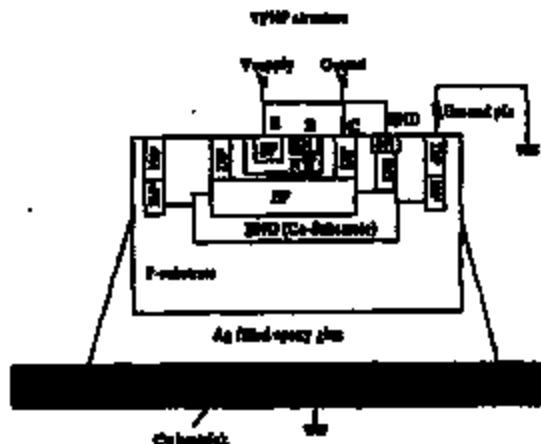

Fig. 3: Schematic view of a cross section of the complementary bipolar IC showing the V-PNP transistor as well as the Cu-bestalik and Ag-filled epoxy glue.
In this paper we will show that this packaging method gives rise to a new latching failure mechanism where latchup is not induced by triggering one of the known thyristors at the top side of the die but by triggering of an unexpectedly present parasitic thyristor located between the frontside and the (n-type) Ag-filled glue contacting the backside of the die, see fig. 3. The phenomena will be described in more detail in the paper and options for its elimination will be presented. Consequences for qualification testing will be discussed.
The power ICs in our study are fabricated in a 2 μm double metal complementary bipolar process featuring both V-NPN and V-PNP power transistors. The transistors are built in a 10 μm thick, 2 Gcm^{-2} n-type epi layer on top of a 375 μm thick 4 Gcm^{-2} p-substrate. Isolation between different n'-epi islands is achieved by deep P/buried-P (DPWP) junction isolation. The base of the V-PNP transistor is formed by a N_{well} (NW) diffusion in the n'-epi layer and the transistor isolated from the p' substrate by a deep buried-N (BND) diffusion, see fig. 3. The bipolar gains b_{v} of the active V-PNP transistor T1 formed by the SP-(NW/n'-epi)-BP diffusions, the parasitic V-PNP transistor T3 formed by the BP-BND-p'-substrate and the parasitic V-NPN transistor T2 formed by the (NW/n'-epi)-BP-BND diffusions, see fig. 4, typically equal 60, 120 and 11 respectively at 25°C. At the end of the process all n-doped diffusion layers are
The ICs are subsequently packaged in a SiL-powder package. Here the p⁺ substrate backside is attached to a Cu-beamsplak by an epoxy glue containing Ag-fillers to achieve low thermal resistance values, see fig. 3 and 5.
baised and electrons are injected into the substrate and collected by the BND-layer, see fig. 3 and 4. This causes a voltage drop across R_{sub} , which forces parasitic PNP transistor T3 to switch on. A current now flows from the emitter of the V-PNP power transistor T1 to the substrate via T3, causing a voltage drop across R_{sub} . When this voltage exceed the forward voltage of the backside diode, the parasitic NPN transistor T4 may remain conducting even when the V-PNP saturation event is over. Parasitic NPN transistor T2 then starts to operate in reverse and as a result the collector current of T4 will start to drive transistor T1 and a thyristor is being build-up.